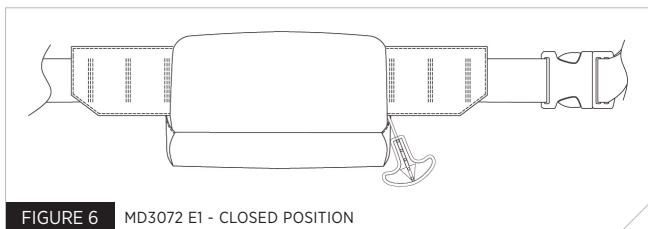

FIGURE 6 MD3072 E1 - CLOSED POSITION
6. Tuck in the bottom of the back flap and secure the Velcro™ (see Fig. 6 for MD3072 E1 and 6A for MD3810 E1).